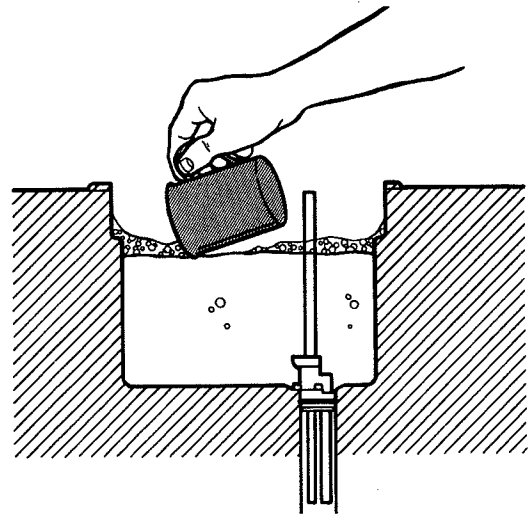

Figure 56. Skimming Hopper
3. Using the one pint aluminum overrun container, skim the mix in the hopper (Fig. 56).